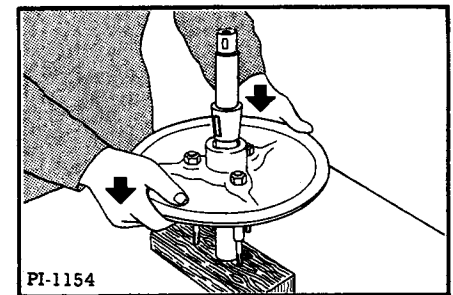

Fig. 48 Removing Sheave Half From Shaft
6. Remove the sheave half by tapping the end of the shaft on a block of wood (Figure 48).